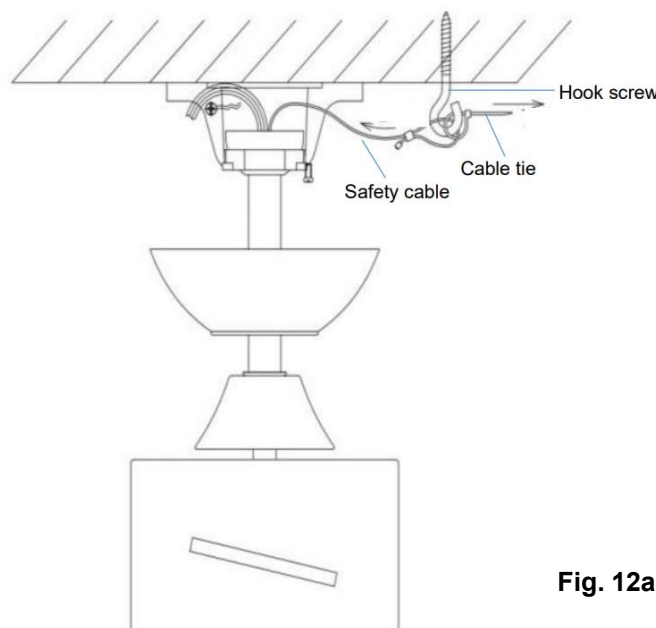

Fig. 12a
10. Pull the safety cable onto the hook screw and tight, tie the safety cable and hook screw with Cable Tie. (**Fig. 12a**)